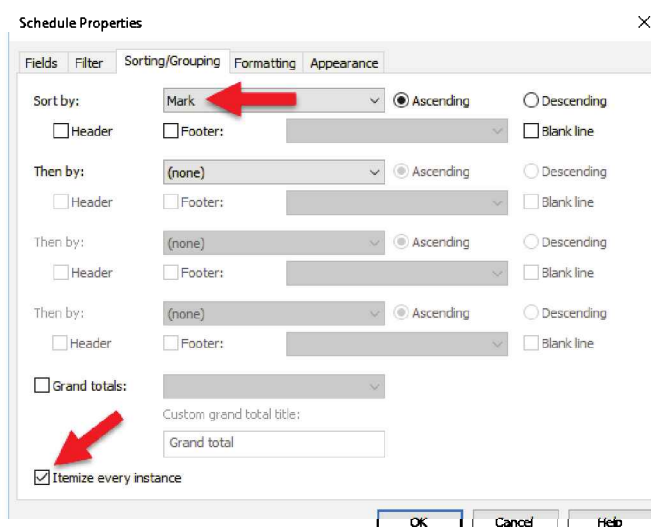

FIGURE 12-2.3 Schedule Properties – Sorting
8. On the **Sorting/Grouping** tab, set the schedule to be sorted by the **Mark** (i.e., door number) in ascending order (Figure 12-2.3).